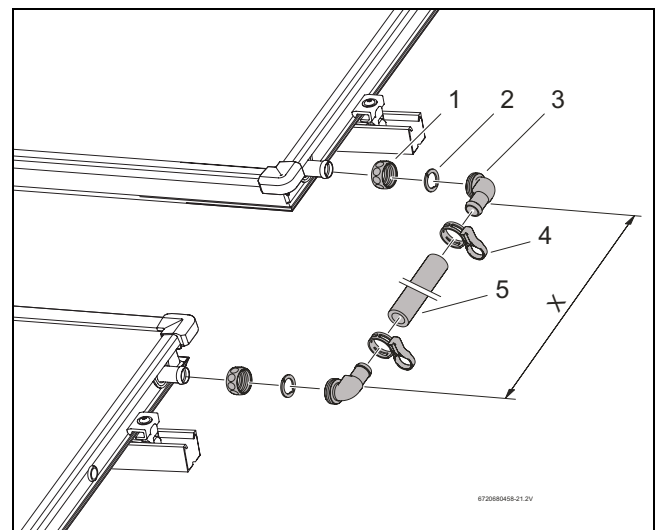

Fig. 58 Connection set between two rows of collectors
- ▶ Push union nut (Fig. 58, [1]) over the collector union.
- ▶ Place collector bracket (Fig. 58, [2]) behind the collector connection stiffener.
- ▶ Press collector bracket with O-ring (Fig. 58, [3]) onto the connection, align and secure with a union nut.
- ▶ Measure the distance between the angular peaks (measurement X) on the collectors and trim the hose (Fig. 58, [5]) accordingly.
- ▶ Insert solar hoses in collector brackets and secure with hose clip (Fig. 58, [4]).